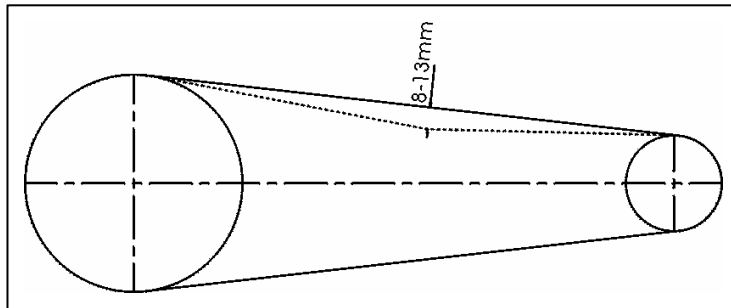

Fig. 7.6
- 4 Stretch the belt tension with the tensioning screw attached to the motor base. (Note the max permissible tension according to Fig. 7.6).
To properly tension the belts, press the belt with your thumb midway between the pulleys as indicated in figure 7.6. When properly tensioned the belt should deflect between 5/16"-1/2" (8-13 mm).